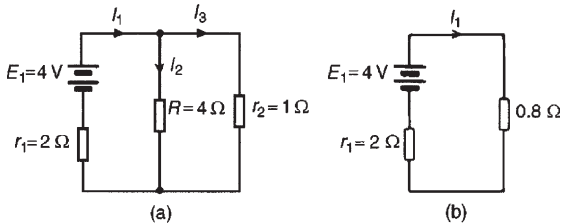
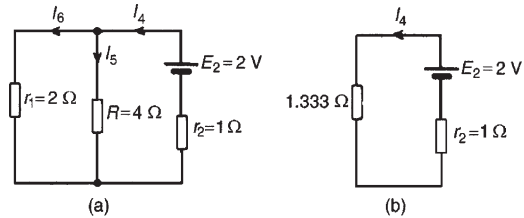
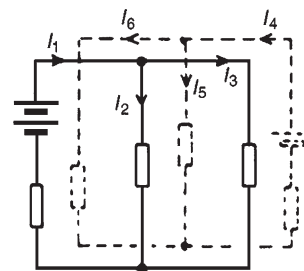

Figure 13.17
Figure 13.18
Figure 13.19
1. Redraw the original circuit with source  $E_2$  removed, being replaced by  $r_2$  only, as shown in Fig. 13.17(a)
2. Label the currents in each branch and their directions as shown in Fig. 13.17(a) and determine their values. (Note that the choice of current directions depends on the battery polarity, which, by convention is taken as flowing from the positive battery terminal as shown.)
From the equivalent circuit of Fig. 13.17(b),
From Fig. 13.17(a),
3. Redraw the original circuit with source  $E_1$  removed, being replaced by  $r_1$  only, as shown in Fig. 13.18(a)
4. Label the currents in each branch and their directions as shown in Fig. 13.18(a) and determine their values.
From the equivalent circuit of Fig. 13.18(b)
From Fig. 13.18(a),
5. Superimpose Fig. 13.18(a) on to Fig. 13.17(a) as shown in Fig. 13.19